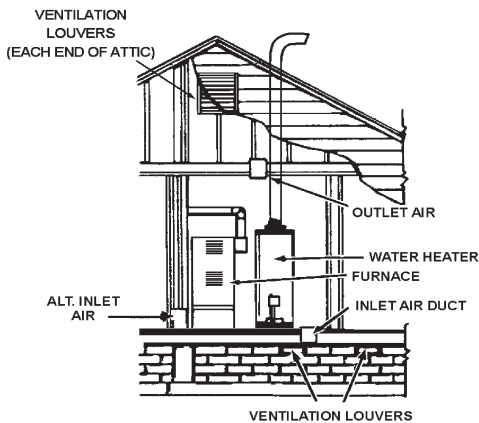

FIGURE 7.
B. ALL AIR FROM OUTDOORS: (See Figures 7 through 8C)
1. When directly communicating with the outdoors, each opening should have a minimum free area of 1 square inch per 4,000 Btu per hour (5.5 cm²/kW) of total input rating of all equipment in the enclosure, see Figure 7.